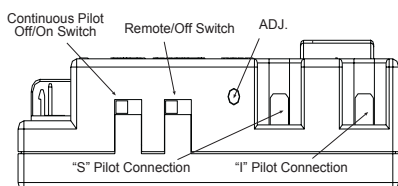

Figure 35 - Gas Module Right Side
1. There is a switch located on the right side of the module that reads CONTINUOUS PILOT ON/OFF. This switch selects the pilot's mode of operation (Figure 35).